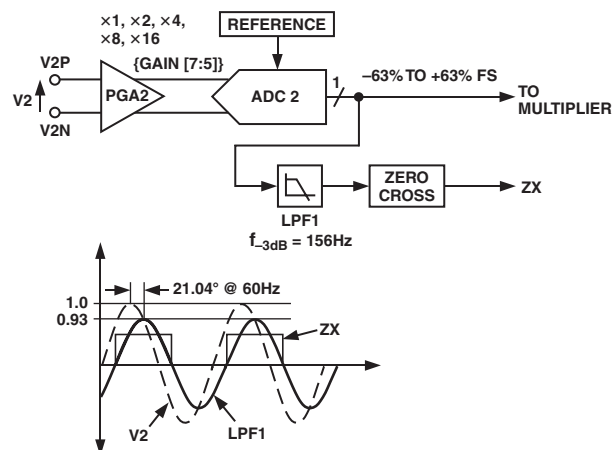

Figure 14. Zero Cross Detection on Channel 2
The ADE7759 has a zero crossing detection circuit on Channel 2. This zero crossing is used to produce an external zero cross signal (ZX) and it is also used in the calibration mode—see Energy Calibration section. The zero crossing signal is also used to initiate a temperature measurement on the ADE7759—see Temperature Measurement section. Figure 14 shows how the zero cross signal is generated from the output of LPF1.